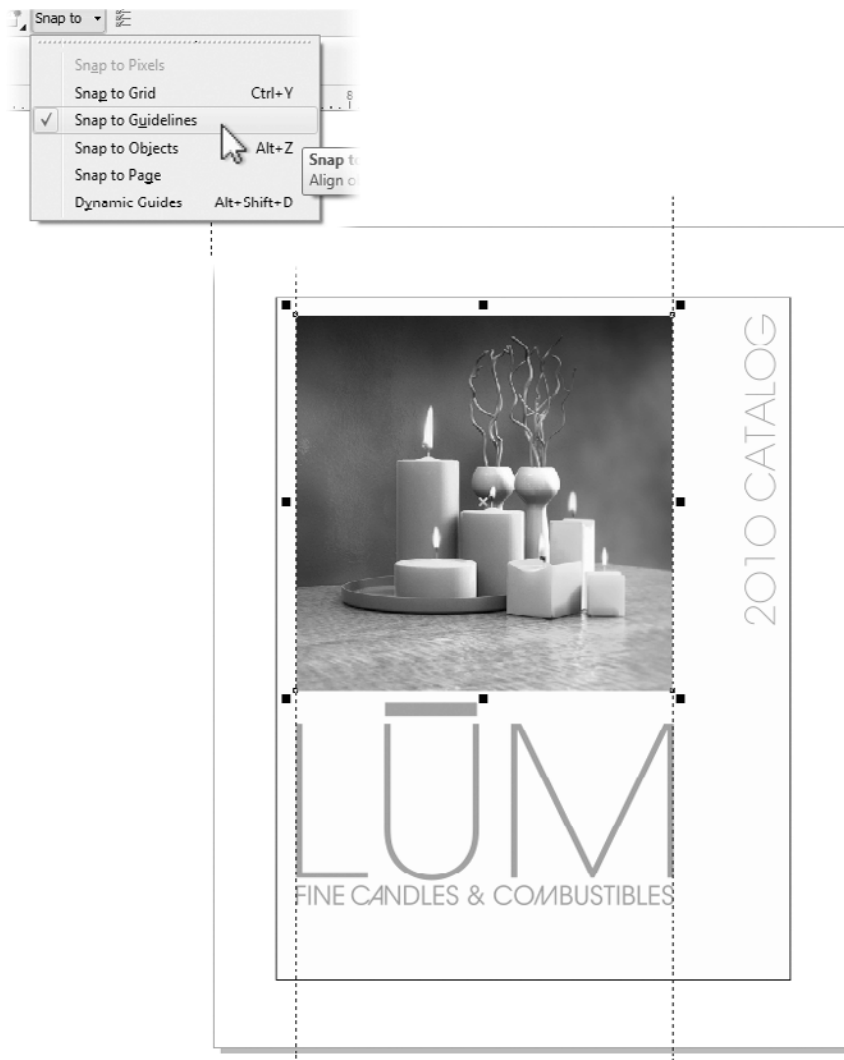

FIGURE 23-5 Scale the imported image as you place it in the design.
3. Your cursor is loaded with the image now, and it's much larger than the place for it within the layout, so you'll scale the image as you place it. First, make sure Snap To Guidelines is checked on the Snap To list on the standard toolbar. Click an insertion point at the top left of the guides intersection; then drag down until the right edge of the image meets the right guide. You've scaled and placed the image now, as shown in Figure 23-5.